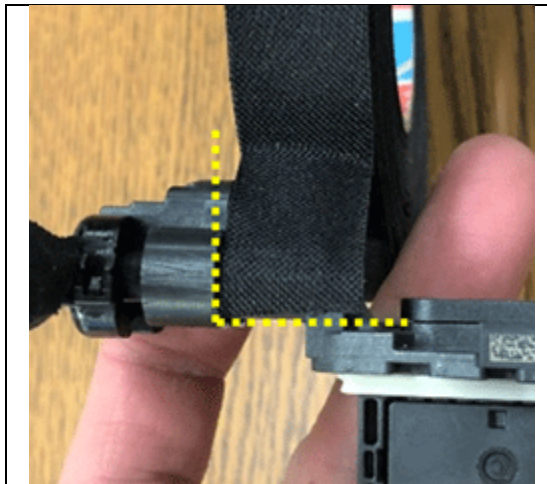

Figure 3
6. Using Tesa® tape 51006 (or Tesa® tape 51036) align the tape to the edge of the sensor shown by the dotted lines. See Figure 3.